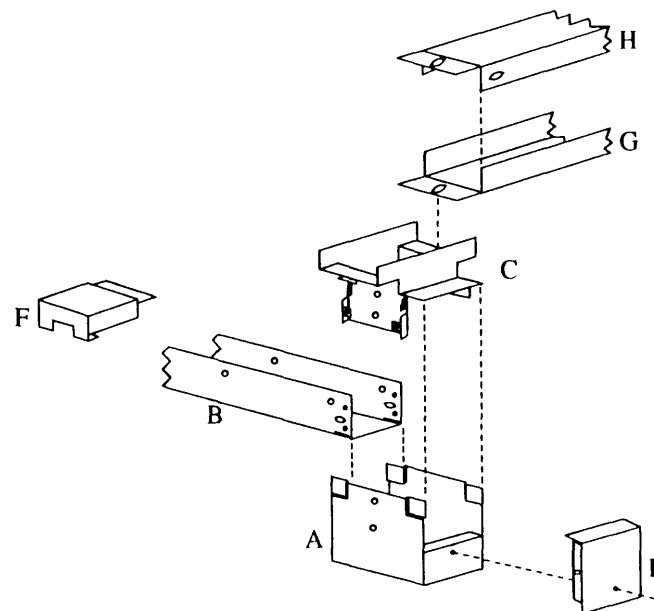

Figure 6-4. Assembly of Cross-Aisle Shielded Ducts
9. If a given cabinet is to support a cross-aisle shielded duct, set a cross-aisle riser ("C" on figure 6-4) on the cabinet riser ("A").
2. Set the tongue on the bottom of a cross-aisle trough ("G" on figure 6-4) into the platform of the cross-aisle riser ("C"). From above the trough, run a self-tapping screw through the slot in the trough and into the hole in the riser.
4. If there is no trough ("G" on figure 6-4) to install in one end of the cross-aisle riser ("C"), press a cross-aisle shielded end cap ("F") on the unused end of the riser. (Unlike earlier ductwork, the endcap will fit either end of the cross-aisle riser.) The side walls of the end cap go outside the walls of the riser. The ears on the bottom of the end cap go outside of the riser's bottom plate, and the bottom plate of the end cap goes inside of the riser's bottom plate.